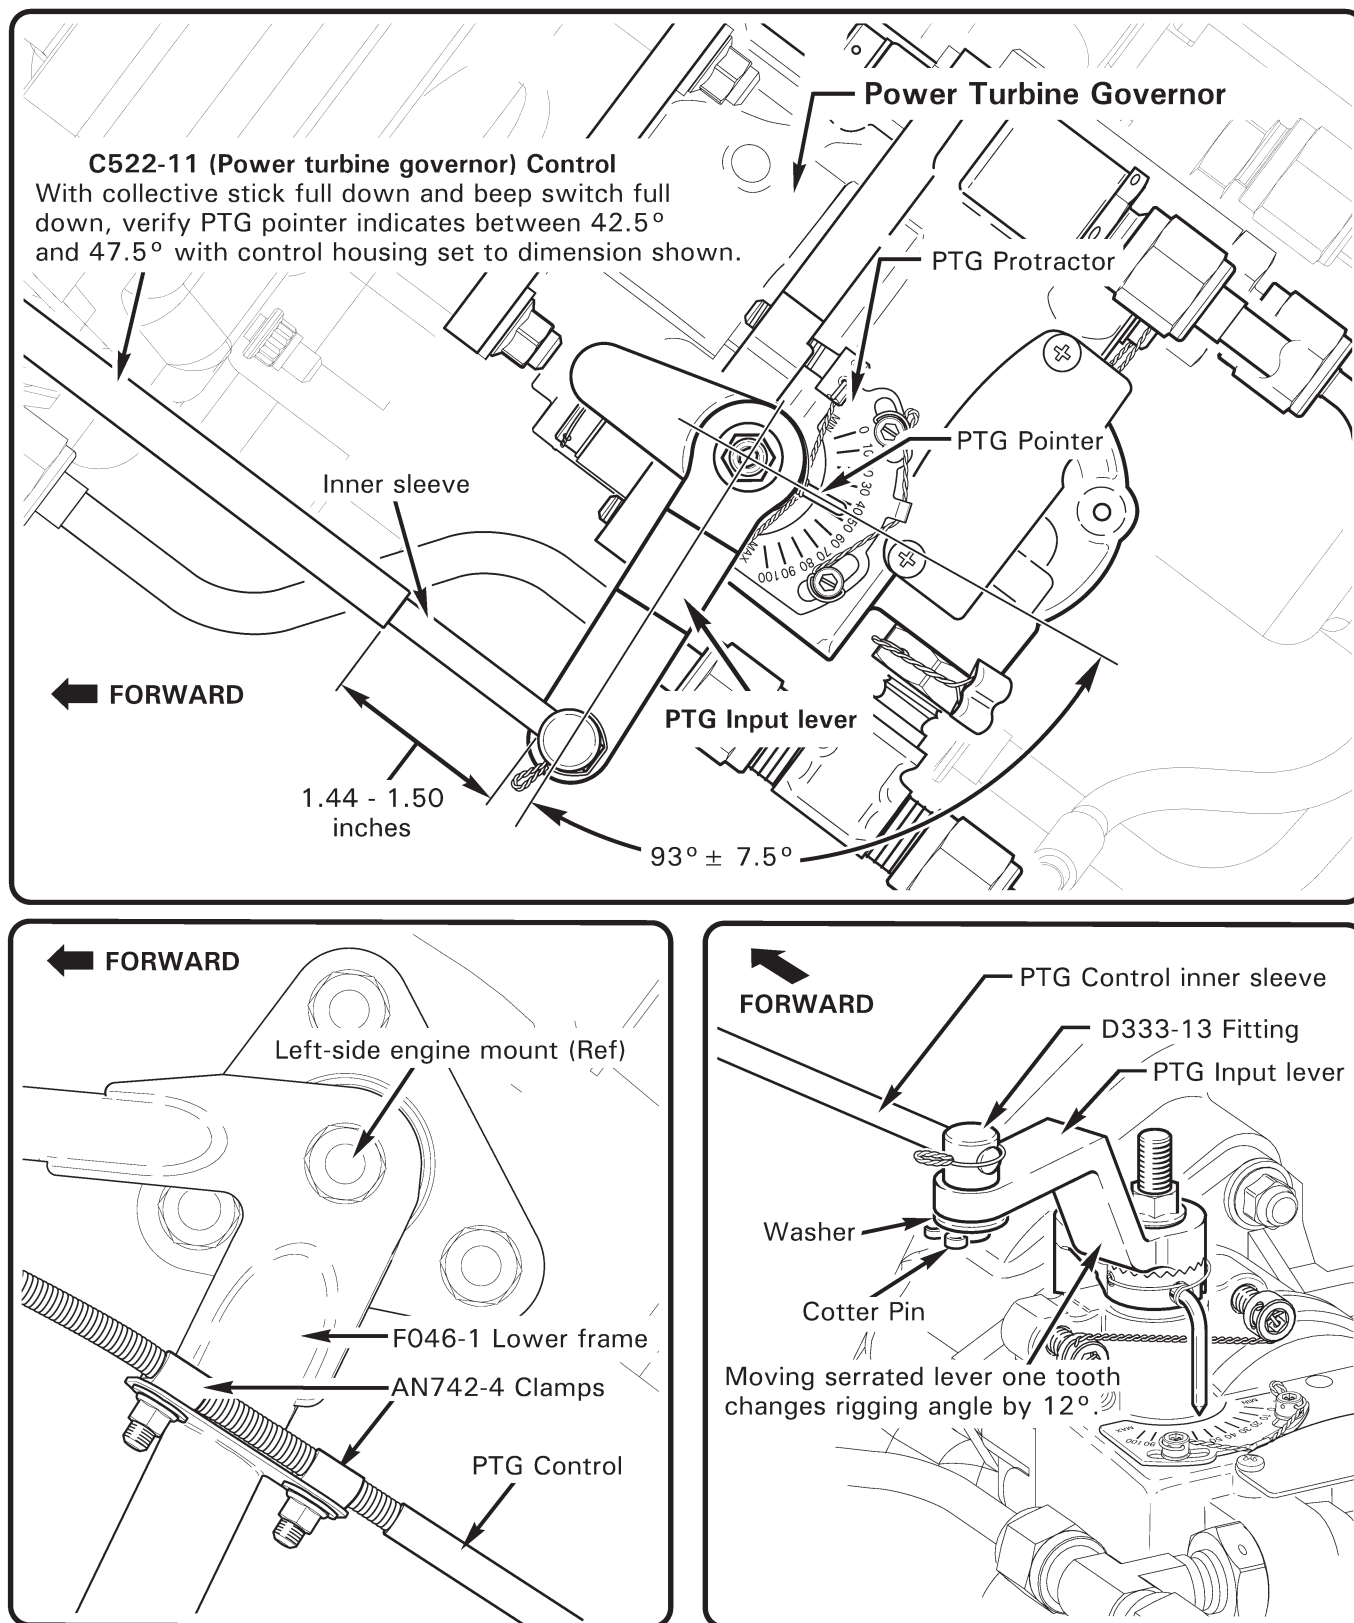

FIGURE 76-2 POWER TURBINE GOVERNOR
2. Refer to Figure 76-2. Remove cotter pin and washer securing C522-11 (power turbine governor) control inner sleeve and D333-13 fitting to PTG input lever.
2. Refer to Figure 76-2. Verify PTG input lever rigging angle is  $93.0^{\circ} \pm 7.5^{\circ}$ . As required, remove hardware securing serrated levers and reposition to proper angle. Install hardware, special torque nut per Section 20-33, and torque stripe per Figure 5-1.
2. Refer to Figure 76-2. With collective stick full down, "beep" collective toggle switch to full down. Verify PTG pointer indicates between  $42.5^{\circ}$  and  $47.5^{\circ}$  on PTG protractor. Turn BATTERY switch OFF.